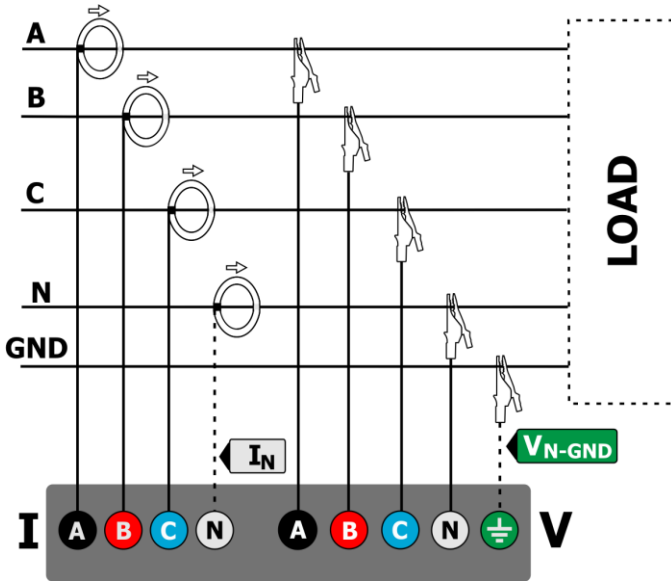

Fig. 60. Wiring diagram – 3-phase 4-wire, 3-phase 4-wire (no U L2)(GB) / 2 ½ element (no V L2/B)(USA) systems.
- 3-phase 4-wire, 3-phase 4-wire (no U L2)(GB) / 2 ½ element (no V L2/B)(USA)(Fig. 60),
*In order to correctly calculate total apparent power S_e and total Power Factor (PF) in a 4-wire 3-phase system, it is necessary to measure the current in the neutral conductor. Then it is necessary to activate option **N conductor current** and connect 4 probes, as shown in Fig. 60. More information on total apparent power S_e - see sec. 5.3.5.*